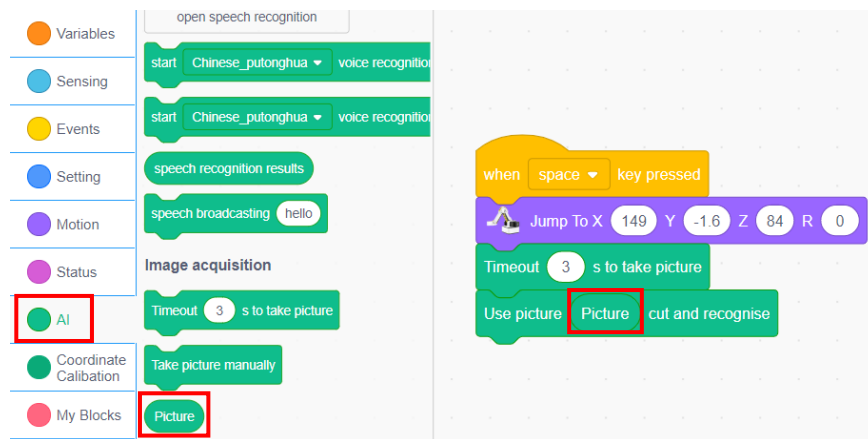

Figure 4.16 Setting the object for segmentation and recognition
Step 5: Set the taken image for segmentation and recognition, and piece "Picture" to the "1" position, as shown in Figure 4.16.